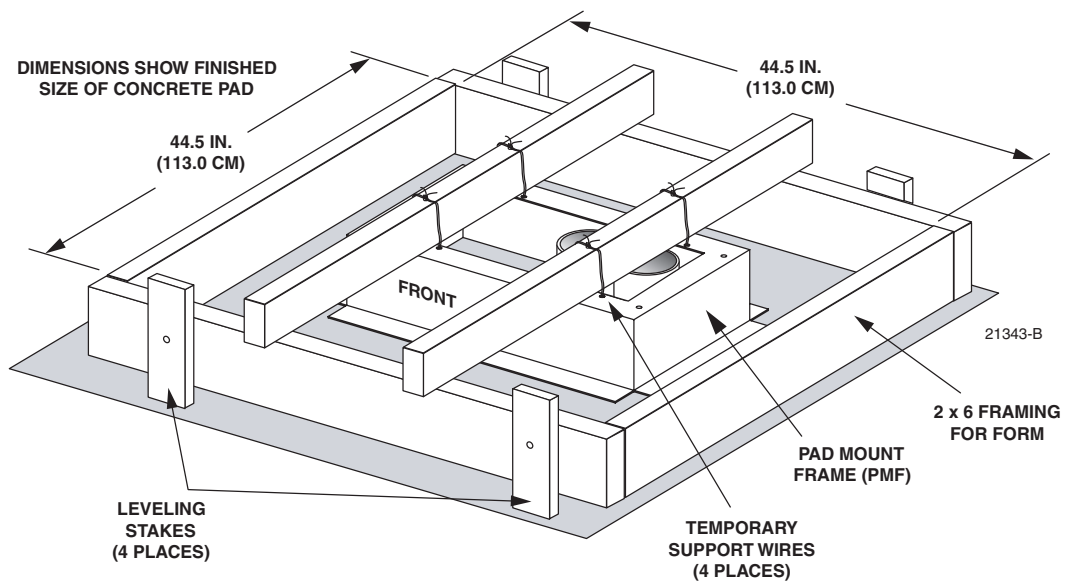

Figure 11. Concrete Pad Framing
1. Build a wood form for the concrete pad using 2 x 6 framing lumber as shown in Figure 11.
- **Note:** Use temporary top framing to keep the top surface of the PMF flush and level with the top of the concrete pad (see Figure 11).